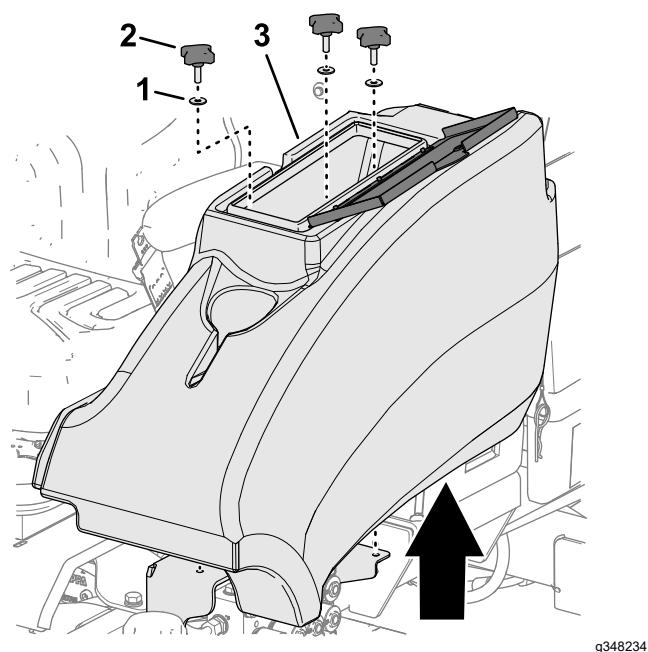

Figure 56
1. At the left side of the operator's platform, open the door of the storage compartment (Figure 56).
2. Remove the 3 knobs and 3 washers that secure the storage compartment to the machine, and remove the compartment (Figure 56).